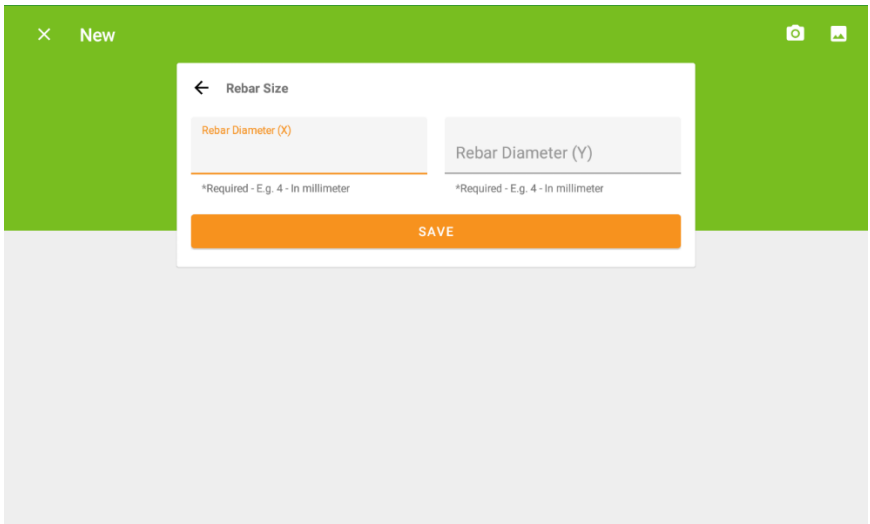

Figure 21. Rebar size
Specify the **rebar diameter** (in mm) in both the vertical (Y) and horizontal (X) direction (Figure 21). Rebar diameter cannot be changed and is constant for a specific project. If you are using the iCOR® for resistivity or half-cell potential measurements only, enter an approximative value for the rebar size, those won't be used in any of the calculations. Press **Save**, the application will bring you back to the main page showing your new active project.